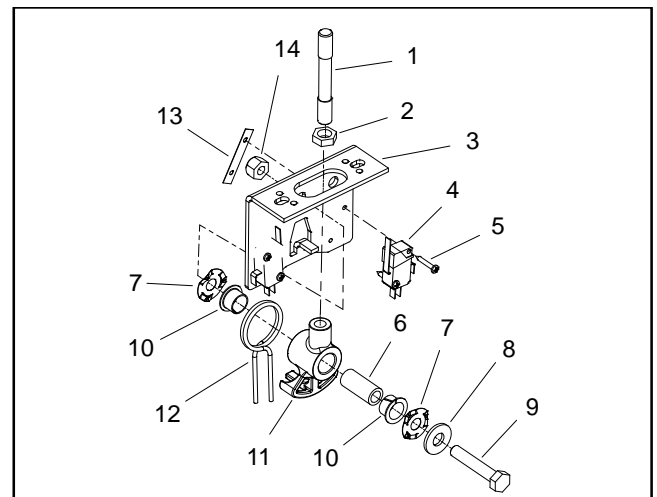

Figure 14
5. Disassemble joystick assembly as needed using Figure 14 as a guide.
**NOTE:** The alarm (item 15) is used on machines that are equipped with the Turf Guardian™ Leak Detector System.
2. If joystick assembly was disassembled, assemble joystick using Figure 14 as a guide. If finger spring washers (item 7 in Fig. 14) were removed, position washers so that fingers on washer point towards pivot hub.